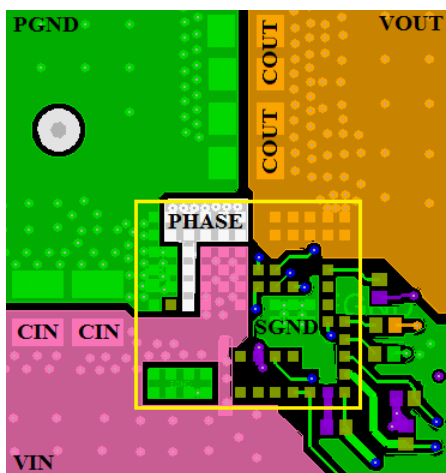

Figure 50. Layout Example - Top Layer
- Place the input capacitors and high frequency decoupling ceramic capacitors between VIN and PGND as close to the module as possible. The loop formed by the input capacitors, VIN, and PGND must be as small as possible to minimize high frequency noise. Place the output ceramic capacitors close to VOUT. Use a copper plane to connect the output ceramic capacitors to the load to avoid any parasitic inductances and resistances. An example layout is illustrated in Figures 50 and 51.